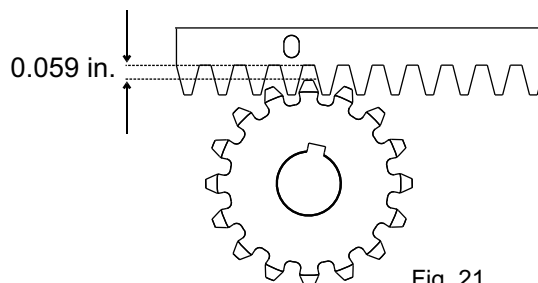

Fig. 21
7.6. To avoid that the door weights down on the pinion (Fig.21) lift up the whole rack about 0.059 in.